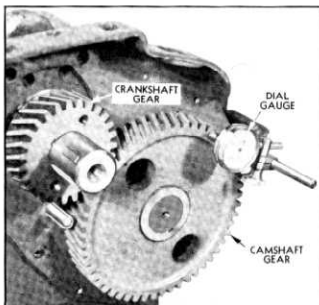

Fig. 57—Checking Runout of Timing Gears
- Check camshaft and crankshaft gear runout with a dial indicator (fig. 57). The camshaft gear runout should not exceed .004" and the crankshaft gear runout should not exceed .003".